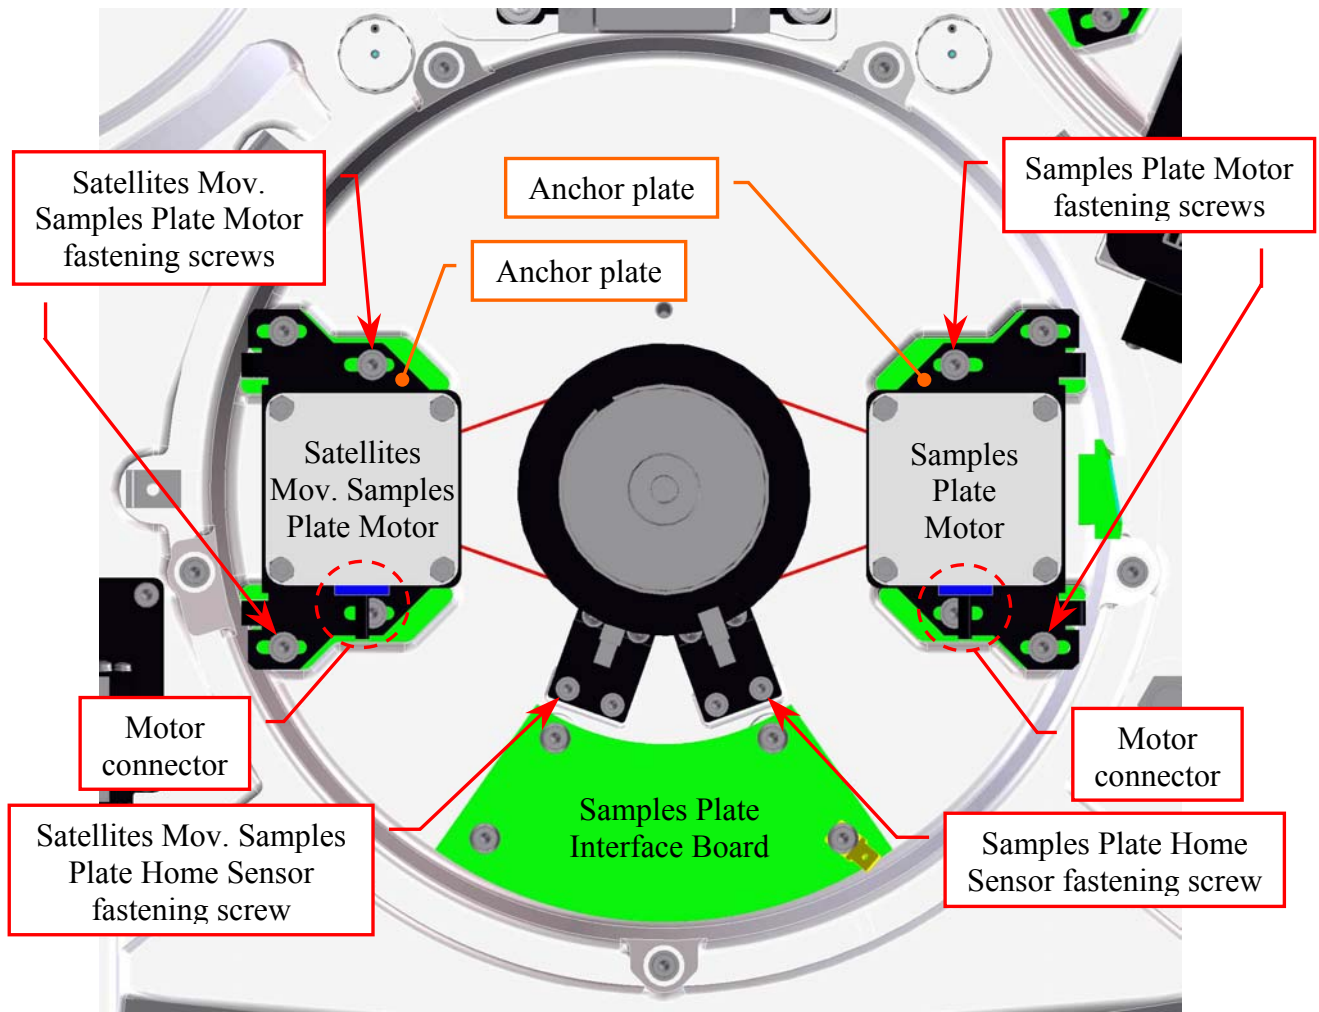

Fig. 98 – Samples Plate Motor and Satellites Mov. Samples Plate Motor
3. Unscrew the four fastening screws of the Samples Plate Motor (**Fig. 98**).
10. Position the Samples Plate Motor on its housing with the side of the motor connector oriented towards the Samples Plate Interface Board (**Fig. 98**) and with the anchor plate springs placed in the relative slits, then tighten slightly its four fastening screws.
13. Tighten the four fastening screws of the Samples Plate Motor (**Fig. 98**).
3. Unscrew the four fastening screws of the Satellites Mov. Samples Plate Motor (**Fig. 98**).
10. Position the Satellites Mov. Samples Plate Motor on its housing with the side of the motor connector oriented towards the Samples Plate Interface Board (**Fig. 98**) and with the anchor plate springs placed in the relative slits, then tighten slightly its four fastening screws.
13. Tighten the four fastening screws of the Satellites Mov. Samples Plate Motor (**Fig. 98**).
4. Unscrew the two fastening screws of the Samples Plate Home Sensor (**Fig. 98**) and take out the sensor from its housing on the Samples Plate Assy.
7. Position the new home sensor on its housing of the Samples Plate Assy - as showed in **Fig. 98** - in order to obtain that the primary pulley disk is centered with respect to the internal sides of the home sensor.
8. Screw the two fastening screws of the Samples Plate Home Sensor (**Fig. 98**).
4. Unscrew the two fastening screws of the Satellites Mov. Samples Plate Home Sensor (**Fig. 98**) and take out the sensor from its housing on the Samples Plate Assy.
7. Position the new home sensor on its housing of the Samples Plate Assy - as showed in **Fig. 98** - in order to obtain that the secondary pulley disk is centered with respect to the internal sides of the home sensor.
8. Screw the two fastening screws of the Satellites Mov. Samples Plate Home Sensor (**Fig. 98**).
2. Loosen the four fastening screws of the Samples Plate Motor and remove the Samples Plate Belt from the pulley of the Samples Plate Motor (**Fig. 98**).
3. Unscrew the two fastening screws of the Samples Plate Home Sensor (**Fig. 98**) and take out the sensor from its housing on the Samples Plate Assy.
4. Remove the Samples Plate Belt from the primary pulley (**Fig. 98**).
8. Tighten the four fastening screws of the Samples Plate Motor (**Fig. 98**).
9. Position the Samples Plate Home Sensor on its housing of the Samples Plate Assy - as showed in **Fig. 98** - in order to obtain that the primary pulley disk is centered with respect to the internal sides of the home sensor.
10. Screw the two fastening screws of the Samples Plate Home Sensor (**Fig. 98**).
2. Loosen the four fastening screws of the Satellites Mov. Samples Plate Motor and remove the Satellites Mov. Samples Plate Belt from the pulley of the Satellites Mov. Samples Plate Motor (**Fig. 98**).
3. Unscrew the two fastening screws of the Satellites Mov. Samples Plate Home Sensor (**Fig. 98**) and take out the sensor from its housing on the Samples Plate Assy.
4. Remove the Satellites Mov. Samples Plate Belt from the secondary pulley (**Fig. 98**).